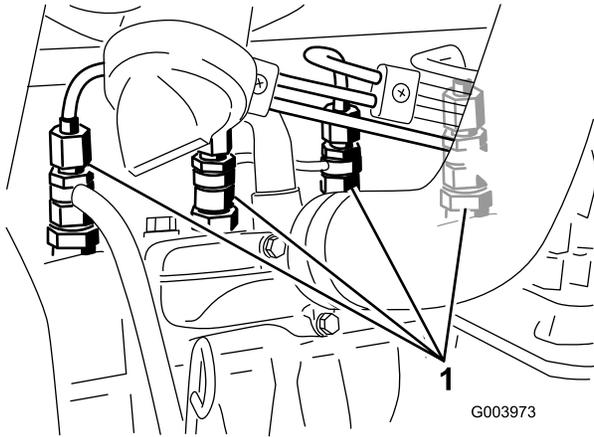

Figure 55
1. Loosen the pipe connection to the No. 1 nozzle and holder assembly (Figure 55).